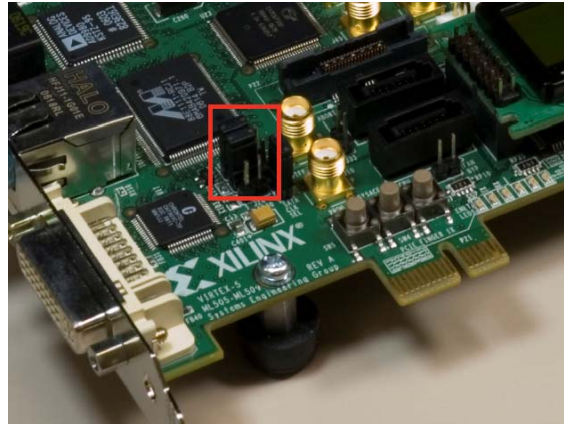

Figure 6: ML507 Jumper Settings
- ◆ Set both J22 and J23 to positions 1-2 (Figure 6)